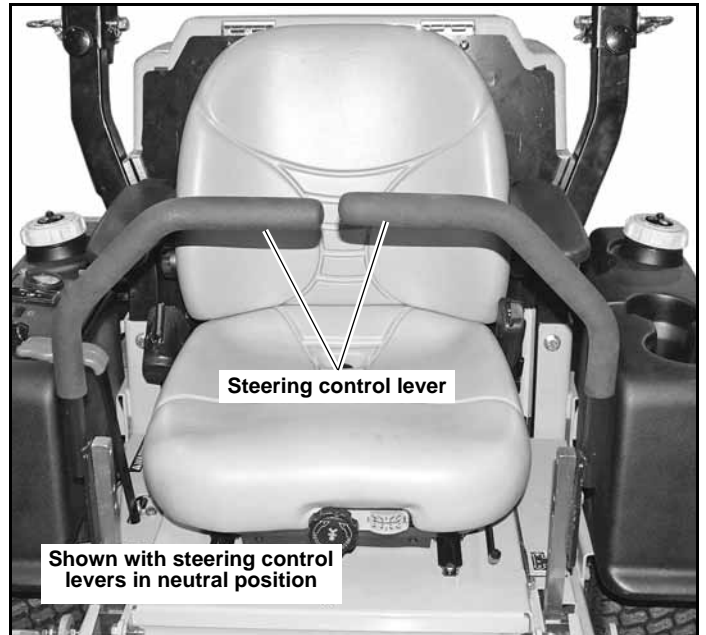

Figure 3-4
- A. Steering control levers (Figure 3-4 & Figure 3-5)** — these levers control the mower’s speed, direction,